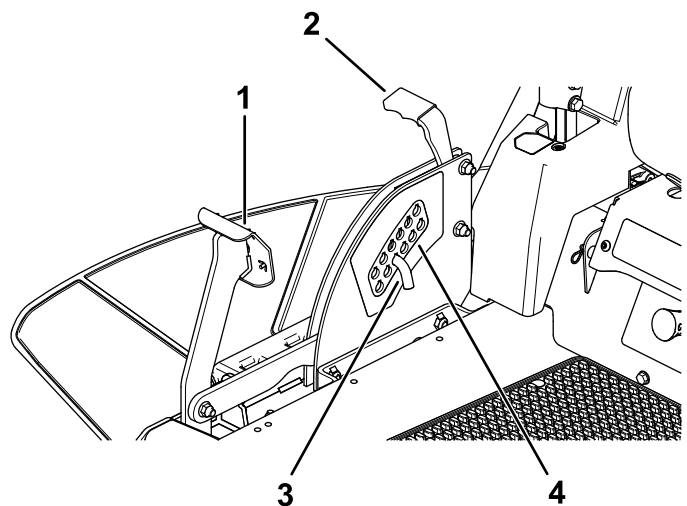

Figure 28
1. Push on the deck-lift pedal with your foot and raise the mower deck to the transport-lock position (also the 114 mm (4-1/2 inches) cutting height position) as shown in Figure 28.
2. To adjust, remove the pin from the height-of-cut bracket (Figure 28).
3. Select a hole in the height-of-cut system corresponding to the desired height of cut and insert the pin (Figure 28).